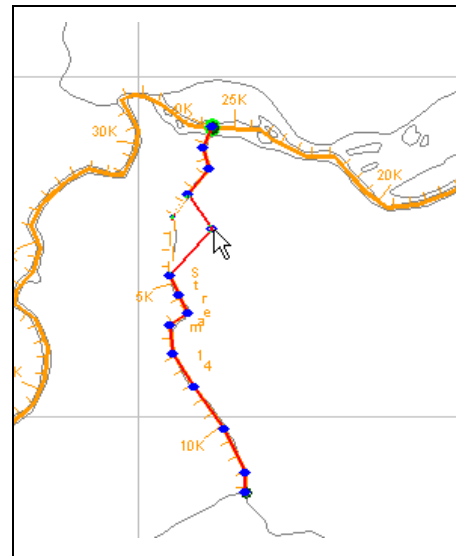

Figure 5.10 Moving Stream Element Vertices
3. Click on the vertex you want to move, and drag it to a new location, as illustrated in Figure 5.10.